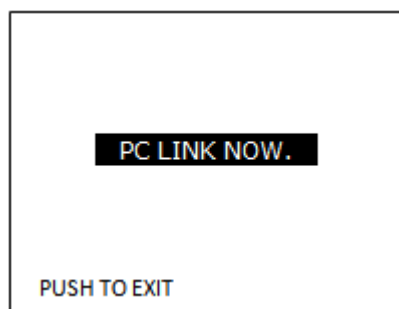

Figure 6-15. PC Communication Screen
To stop the communication, press the center of the tact switch on the PC Communication Screen (Figure 6-15). Then, the screen automatically goes back to Menu Screen.
- (1) While the MS-720 turned OFF, connect the GPS unit to MS-720 with the communication cable.
- (2) Turn on the power of GPS unit after pressing [GPS] in “Menu window”.
- (3) “Fig.6-15. Default setting window” is displayed after the data is automatically transferred to MS-720.
- (4) [DATE], [TIME], [LON], [LAT] and [ALT] display the data transferred from GPS unit.
- (5) [CLK] date is the set value at [SYSTEM] in “Menu window”.